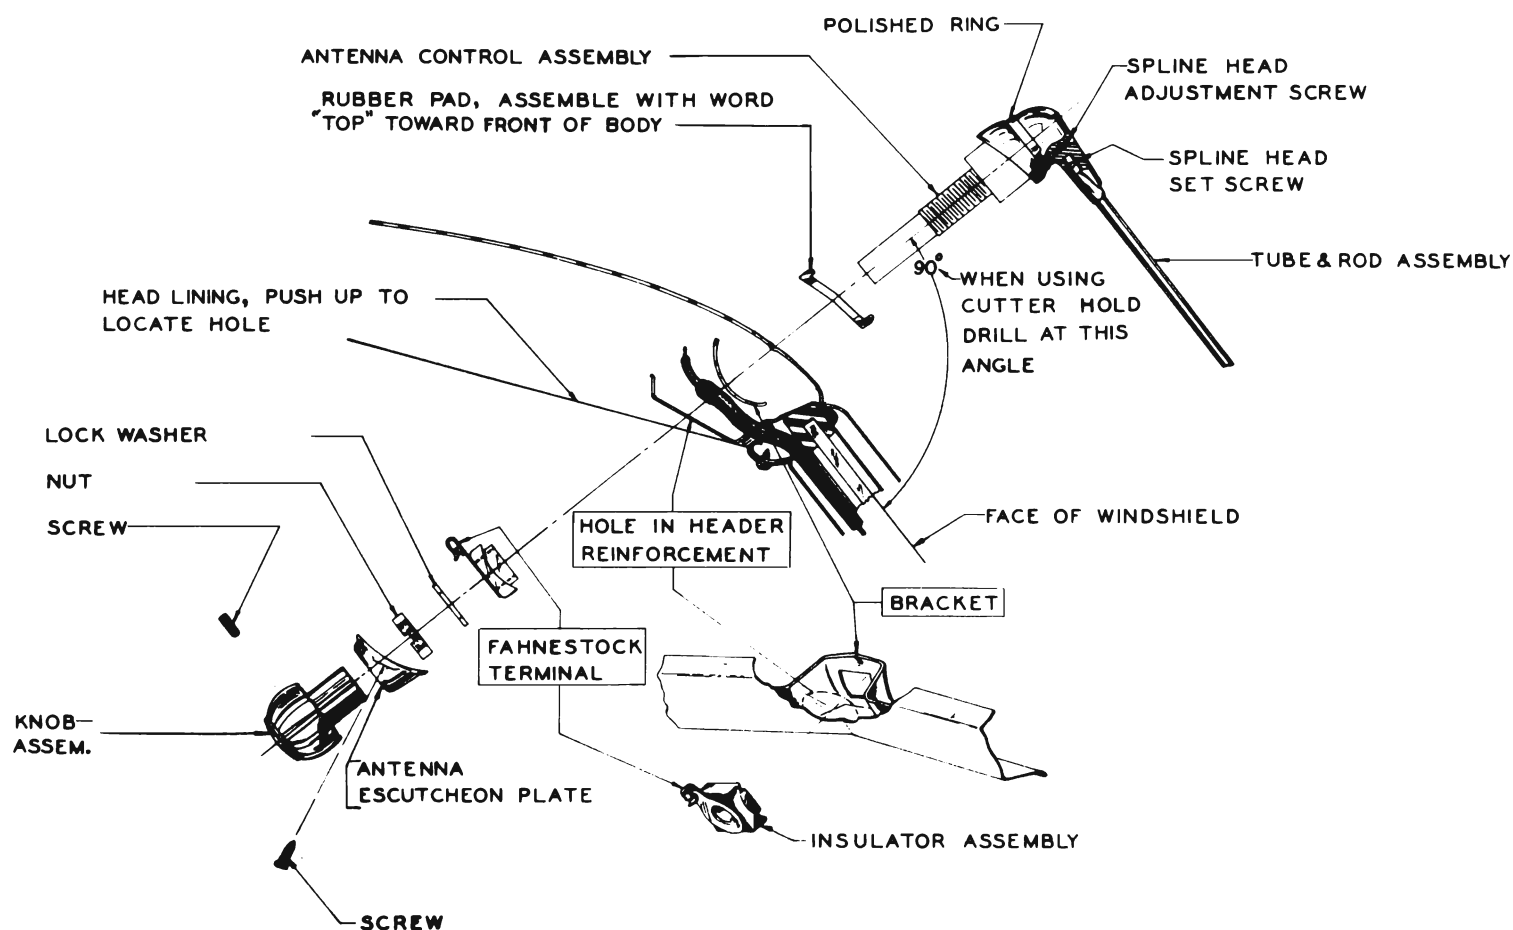

Figure 11-8—Antenna Control Installation Details—Closed Bodies
9. Insert bare end of lead-in wire into the Fahnestock terminal on the hard rubber insulator. Push the slack wire up into the hole, insert insulator up through the hole in the header reinforcement, and locate in the square hole of the bracket just back of the header reinforcement. The Fahnestock terminal must be located in the upper left corner. See figure 11-8.
14. Install antenna escutcheon plate, threading screws into holes provided in header reinforcement. Install knob and tighten set screw securely. See figure 11-8.